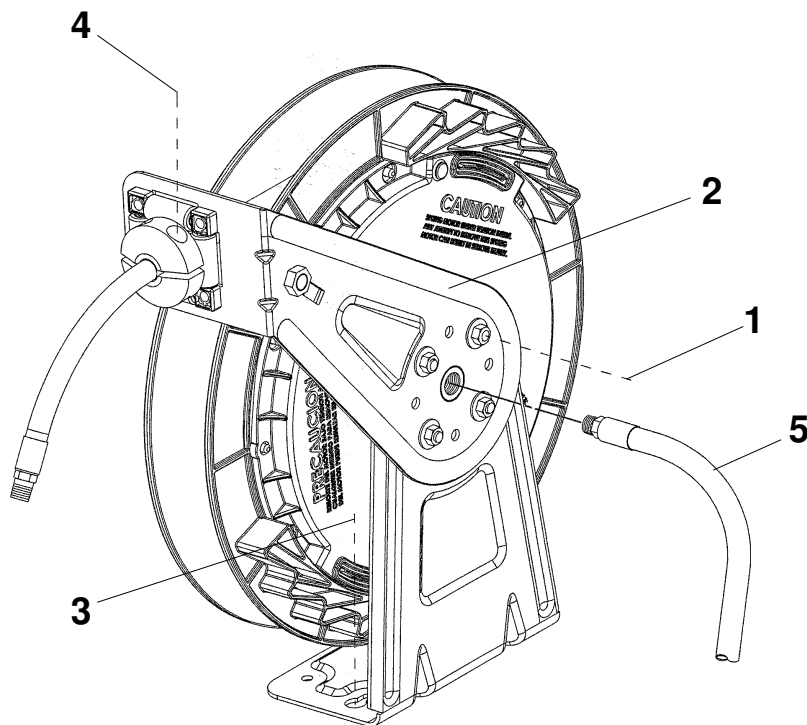

FIG. 2
CAUTION: RISK OF INJURY. Spring winding mechanism is under tension. REMOVE tension as follows. Pull out hose until latch pawl is engaged. Remove bumper by removing slotted screws (item 4, Fig. 2). Carefully disengage latch pawl while maintaining a firm hold on the spool. Turn spool by hand approximately two or three revolutions in the direction of the drive spring until all tension is removed. Remove guide arm (item 2, Fig. 2) and spool by removing the 4 nuts (Item 1, Fig. 2).
3. Position the base to floor, wall or ceiling. Secure into place using four (customer supplied) fasteners (item 3, Fig. 2).
5. Connect a (customer supplied) flexible hose supply line (item 5, Fig 2) to inlet. Do not use rigid plumbing. Apply pipe thread sealant to threads and do not overtighten the connection. Torque should not exceed 70 ft-lbs.